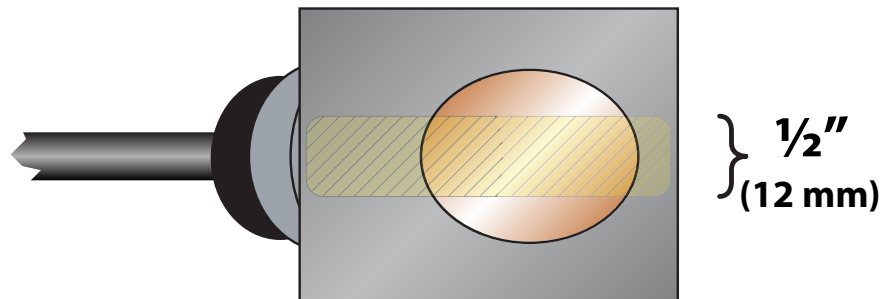

FIGURE 2.4 - APPLICATION OF COUPLANT
For DTN, DTL, and DTH transducers, place a single bead of couplant, approximately ½ inch (12 mm) thick, on the flat face of the transducer. See **Figure 2.4**. Generally, a silicone-based grease is used as an acoustic couplant, but any grease-like substance that is rated not to “flow” at the temperature that the pipe may operate at will be acceptable. For pipe surface temperature over 130 °F (55 °C), Sonotemp® (P.N. D002-2011-010) is recommended.
- 5) For DTN, DTL, and DTH transducers, place a single bead of couplant, approximately $\frac{1}{2}$ inch (12 mm) thick, on the flat face of the transducer. See **Figure 2.4**. Generally, a silicone-based grease is used as an acoustic couplant, but any good quality grease-like substance that is rated to not “flow” at the temperature that the pipe may operate at will be acceptable.
- 4) Place a single bead of couplant, approximately ½ inch (12 mm) thick, on the flat face of the transducer. See **Figure 2.4**.